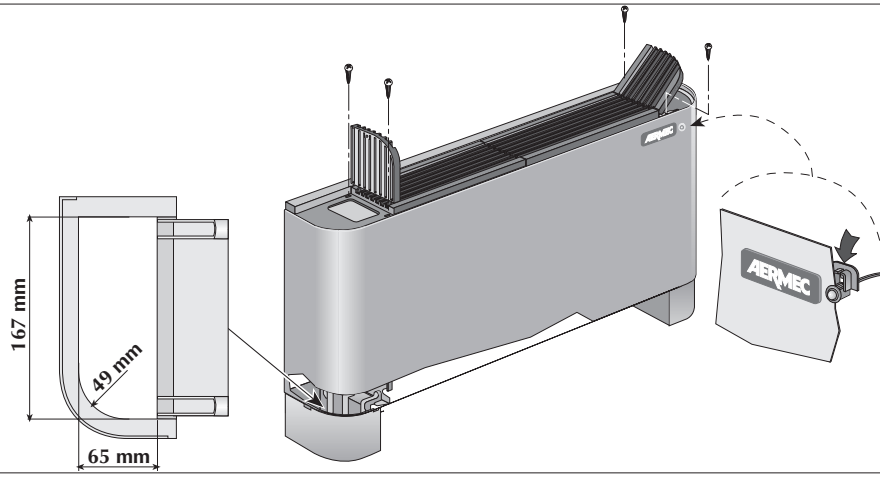

Fig. 3
- Undo the screws and remove the housing (Fig. 3).